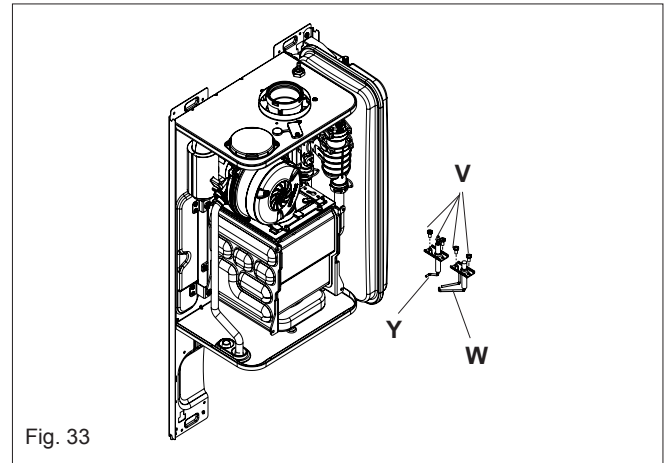

Fig. 33
6.13 ELECTRODES (fig. 33)
Isolate the appliance from the electrical supply and remove the appliance casing as described in 4.7.1. Set the flue gas analyser to read CO₂ and insert the probe into the flue analysis test point (Y1-Z1 fig. 33). Restore the electrical supply to the boiler and switch the boiler to the OFF mode.